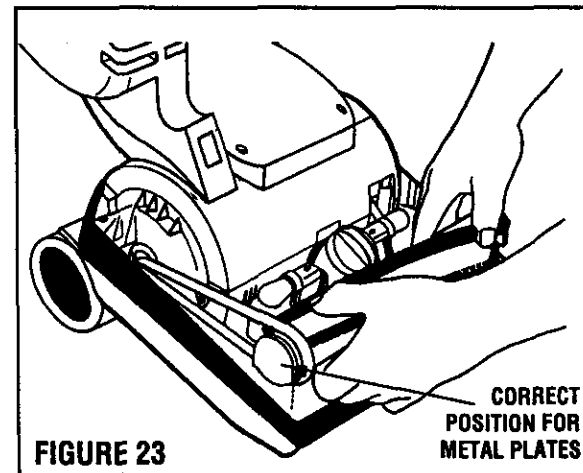

FIGURE 23
5. Place one end of the new belt around the motor shaft, and the other end around the brush. Be sure the belt is not twisted. (Figure 23) Use DESTINY® PLUS replacement belt #71023.
7. Insert the right hand metal plate in the right hand base slot. (See Figure 23 for the correct positioning of the assembled metal plates.)